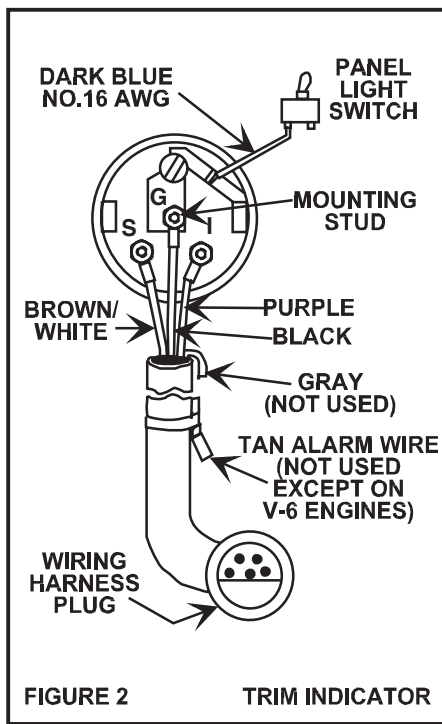

FIGURE 2 TRIM INDICATOR
3. Connect the black wire from the harness to the G (ground) terminal of the Gauge (See Figure 2).